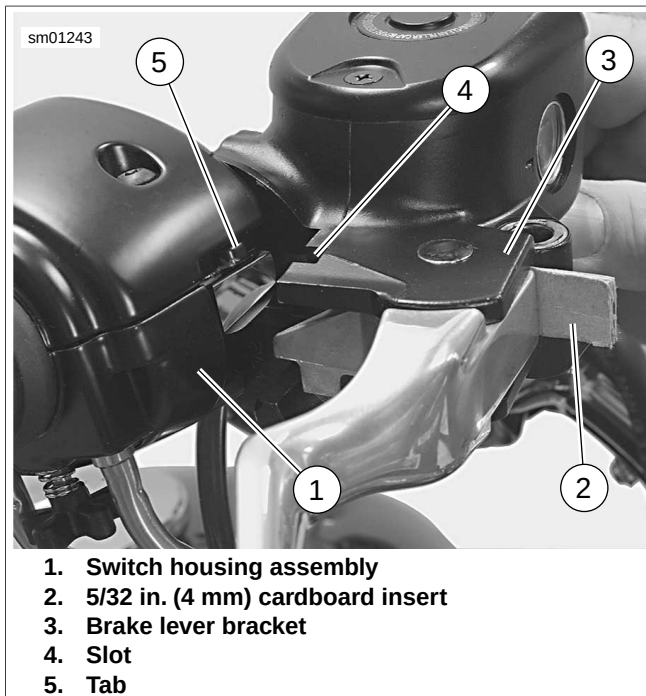

Figure 2-75. Fitting Brake Lever/Master Cylinder To Right Handlebar Switch Housing
1. See Figure 2-75. Position brake lever/master cylinder assembly inboard of switch housing assembly (1) engaging tab (5) on lower switch housing in slot (4) at top of brake lever bracket (3).